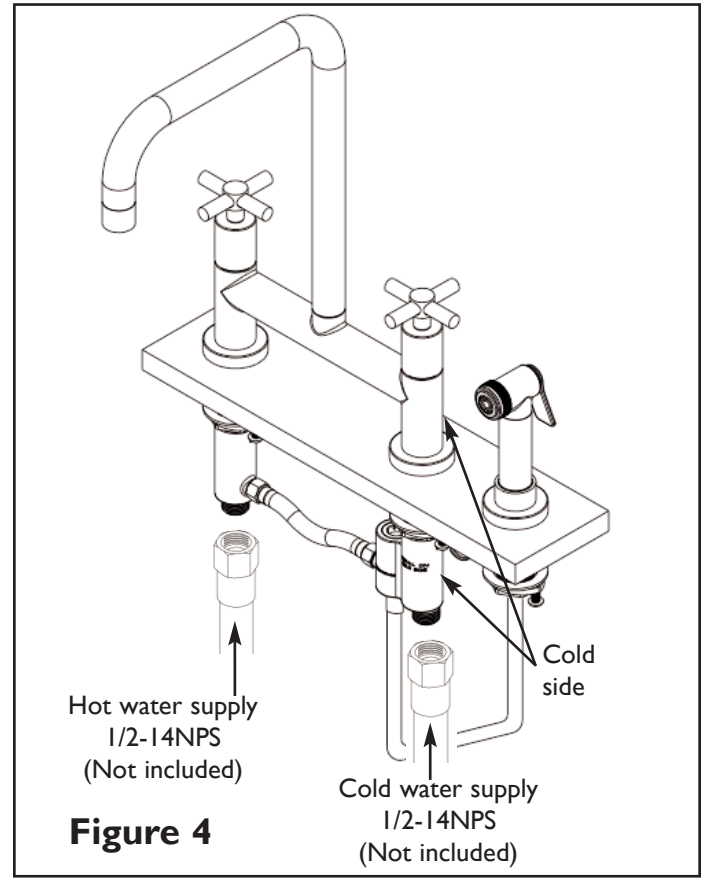

Figure 4
5. Attach hot and cold water supply hoses (1/2-14NPS, not included) to appropriate valve, (utilizing cone washers, friction rings and nuts - (not included)) See **Fig. 4**.